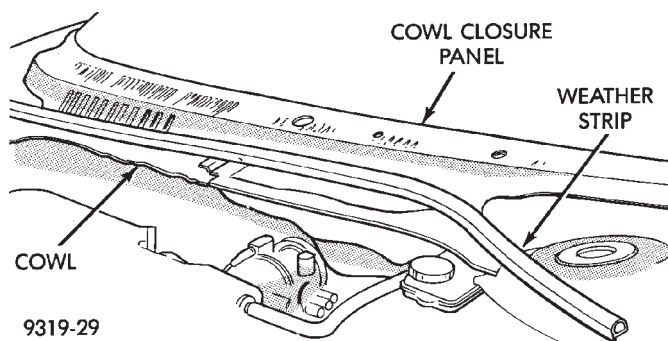

Fig. 3 Cowl Closure Panel Remove And Install
(4) Lower vehicle.
(5) If vehicle is equipped with a 3.5 ltr engine, disconnect throttle cable from throttle body and remove from throttle cable bracket.
(6) Remove both wiper arm assemblies from wiper arm pivots.
(7) Remove the 6 screws attaching cowl closure panel to cowl. Remove the cowl closure panel and weatherstrip as an assembly from the cowl (Fig. 3).